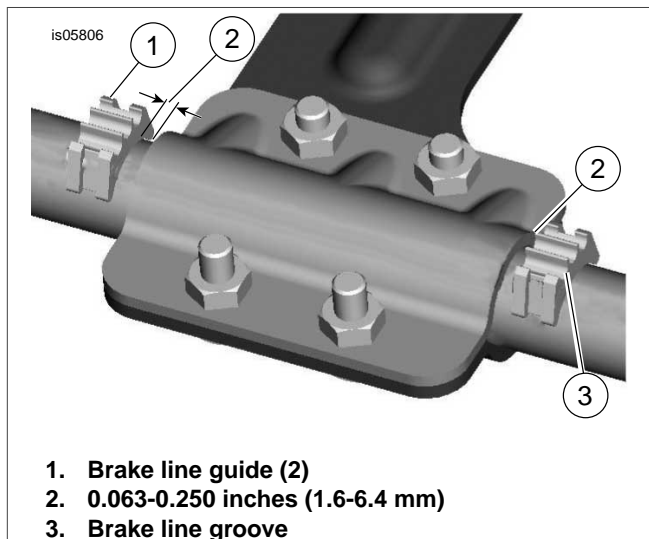

Figure 5. Install Brake Line Guides
7. See Figure 5. Position a brake line guide (1) 0.063-0.250 inch (1.6-6.4 mm) from crossbrace. Adjust brake line so that it is positioned in the outer groove in the guide. Install cable strap (Item 24, Figure 16) around frame tube securing brake line in the guide. Do not capture wire harness in these cable straps. Verify that brake line does not contact right crossbrace cap.